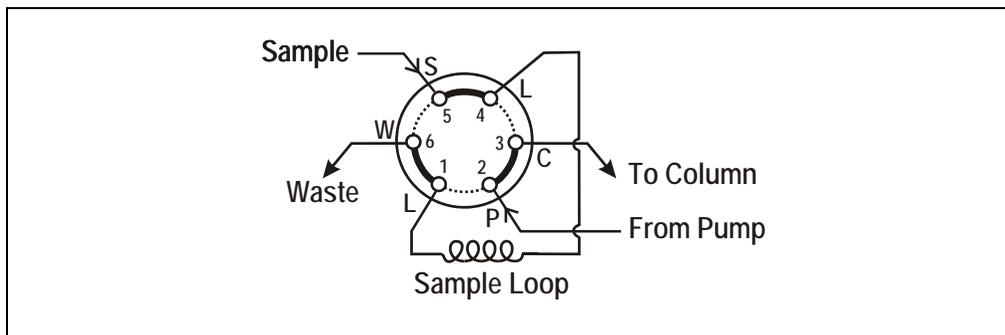

Figure 3-4. Injection Valve Connections
1. Make sure the injection port on the ICS-90 front door (see Figure 2-1) is connected to the sample port S (5) on the injection valve (see Figure 3-4).
1. Disconnect the waste line from port W (6) of the injection valve (see Figure 3-4) and attach a shorter line (10 to 12 inches of PEEK or Teflon® tubing).